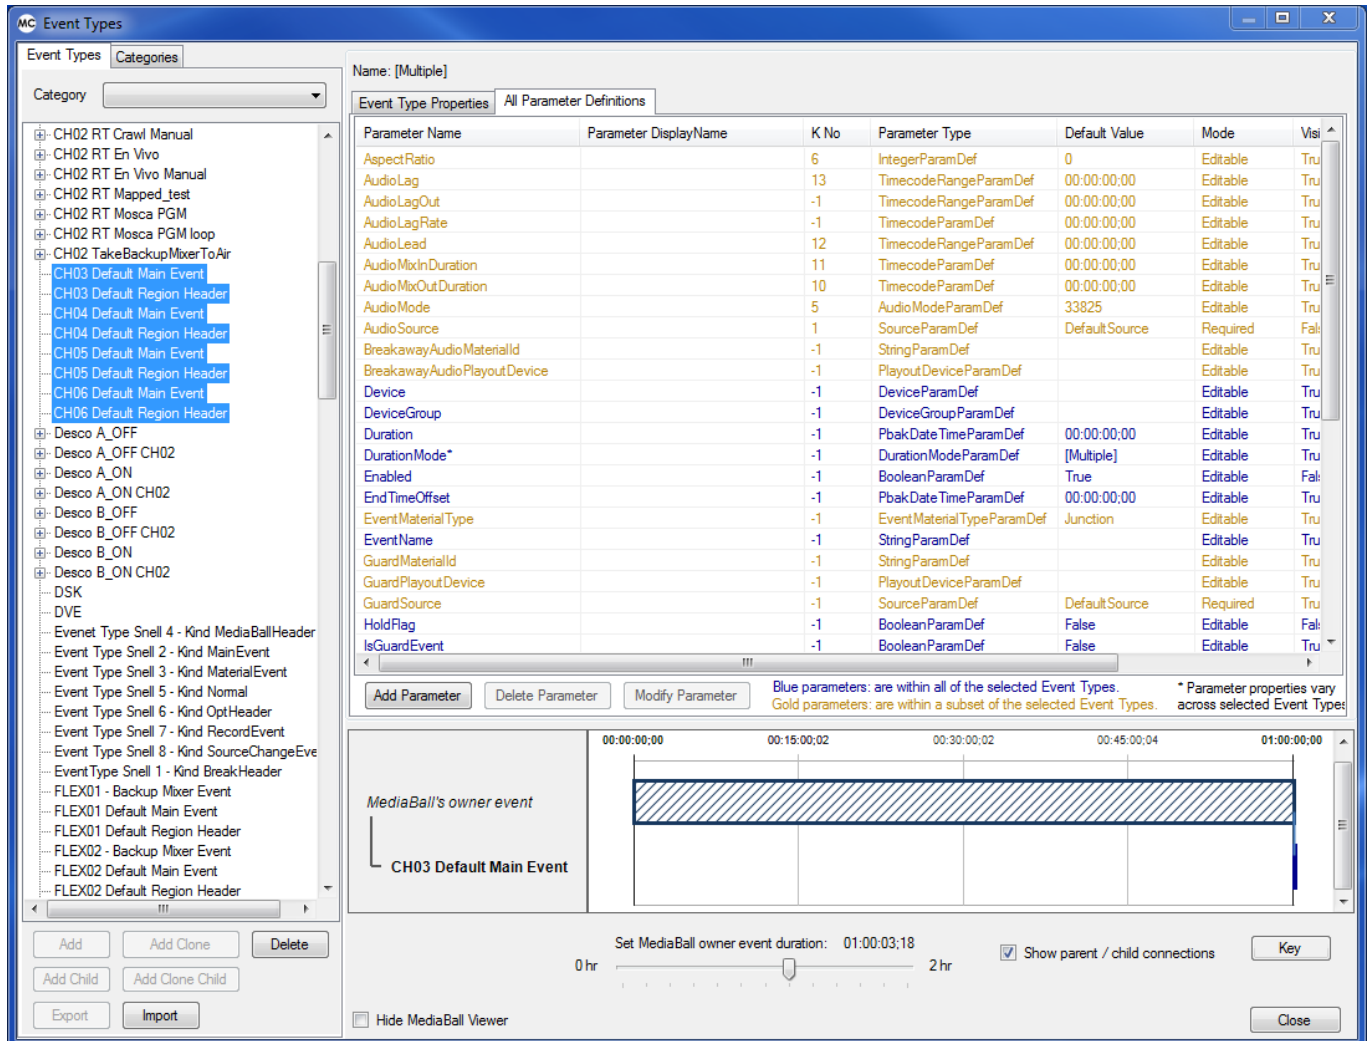

Figure 24 Modifying Multiple Event Type Parameter
2. Click on the **All Parameter Definitions** tab. All of the parameters for the selected Event Types appear in the list. Parameters that are common to all of the selected Event Types are displayed in a **blue** font; parameters that are within a subset of the selected Event Types are displayed in a **gold** font, as shown in Figure 24
For example, Figure 24 above shows that, for the selected Event Types, the DurationMode parameter has [Multiple] default values, i.e. the value could be any of the following: Specified, UseOwner, UseChildren, EndWithOwner, RelativeToOwner. If the value of the field is changed, then all of the selected Event Types parameter will inherit it.